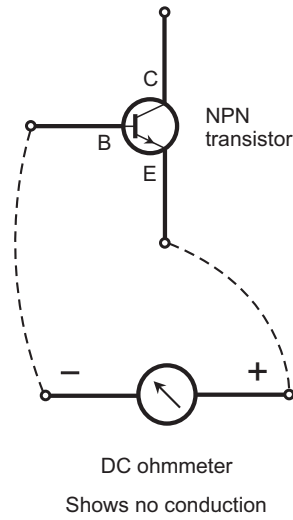

FIGURE 7-19 Electrons should not flow from the base to the emitter.
2. Electrons should not flow from the base to the emitter (Fig. 7-19).